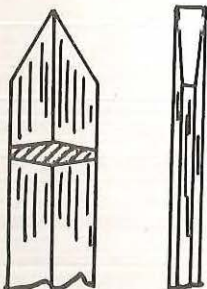

FIG. 303
The parting tool is used for two purposes: (1) for taking sizing cuts which serve as a guide in turning to size, and (2) for cutting off operations. Figure 303 shows the proper tool shape. The parting tool is a double wedge, wider at the center to provide clearance. The point is ground so that the cutting edge is on the *exact* center line of the tool. Grind the tool so that the sides are straight or slightly hollow-ground, then hone carefully. The cutting angle should be about 60° .